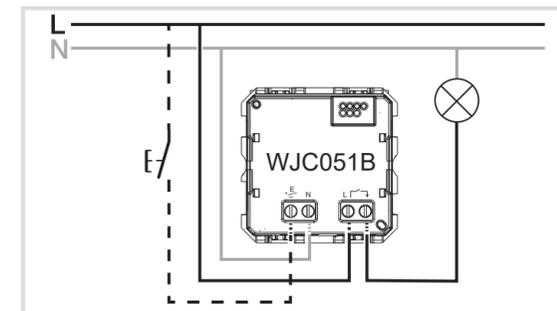

Figure 6: Connection of 3-wire motion detector
- Mount the mounting plate (1) correctly on a suitable surface (fastening material not within scope of delivery)
- Connect motion detector (3) according to the connecting diagram (Figure 6)
- Insert motion detector (3) into the mounting adapter (2) and snap onto the mounting plate.
- Attach upper casing (4) with mounting device (5) and cover (6) on the motion detector (3).